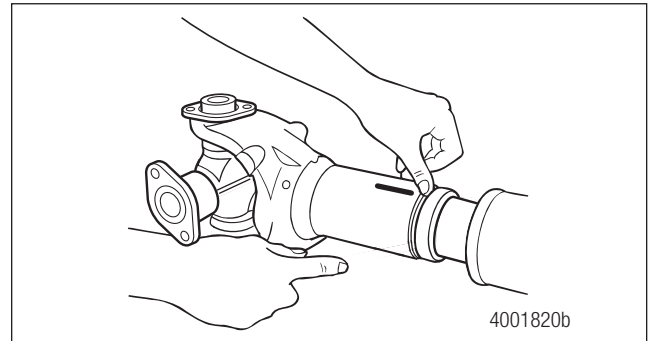

Figure 8.1
2. Use a screwdriver to pry the seal out of the groove in the slip yoke. Figure 8.1.